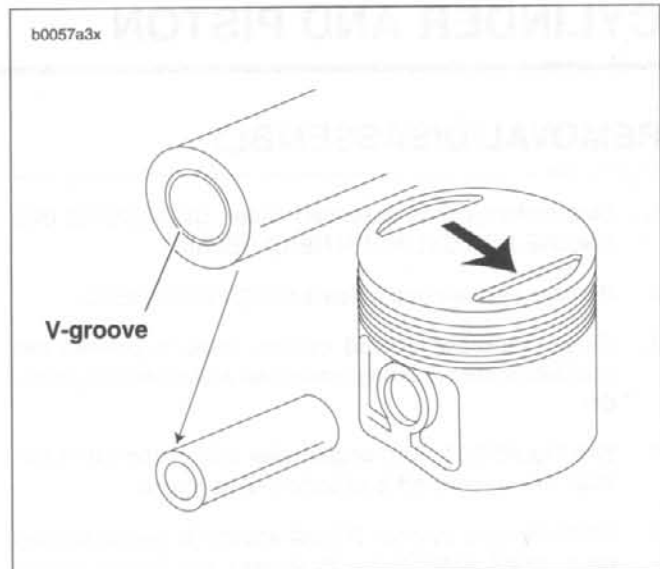

Figure 3-32. Piston Pin and Piston Identification
Since the piston pin is a loose fit in the piston, the pin will easily slide out. The pins have tapered ends to help seat the round retaining rings. See Figure 3-32. 1200cc piston pins are stamped with a V-groove at one end.
9. Mark each pin boss with either an "F" or an "R" to indicate front or rear cylinder, respectively. See Figure 3-32. The arrow at the top of 1200cc pistons must always point toward the front of the engine.